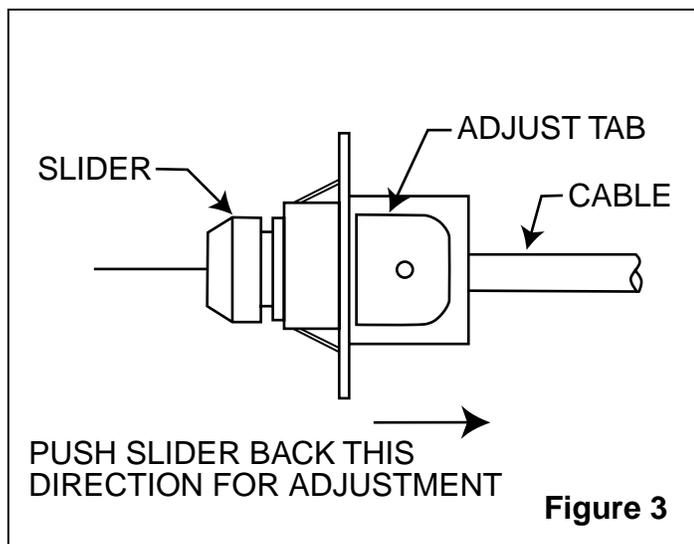

Figure 3
- Push in the Adjust Tab and retract the Slider in the direction shown in **Figure 3**.
- a. Adjustments are made with the engine off. Locate the Adjust Tab on the cable housing. Press in the tab and push the slider as shown in **Figure 3**.
- i. Press in the Adjust Tab and move Slider as shown in **Figure 3**.